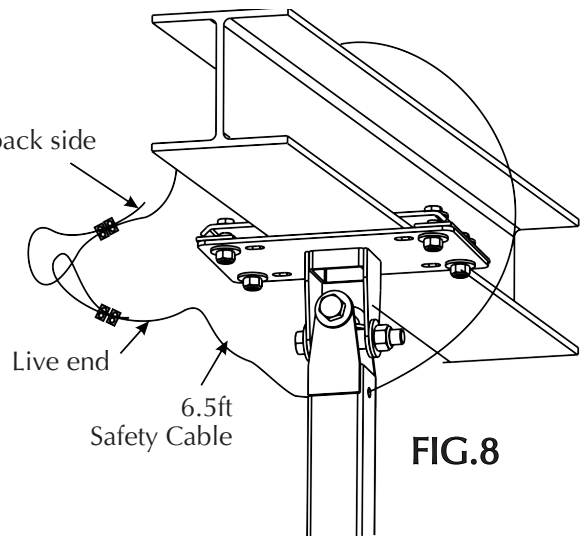

FIG.8
2. Insert the bolts, washers and tighten the nylocks. (Fig.8)
3. Position the safety cable as per Fig.8, loop at both ends.